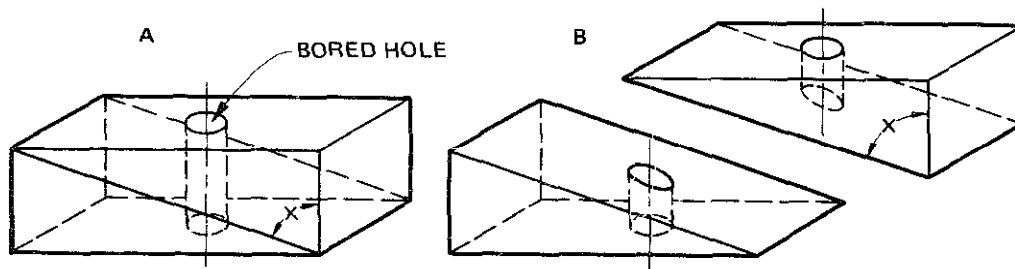

Fig. 10-37 Guide for boring. *
- 1. Bore a vertical hole through a block of wood using the same size auger bit that will be used in making the finished hole. See A, figure 10-37.
- 2. Lay out angle X (A, figure 10-37), which is the guide angle of the hole, and saw off the bottom of the block.